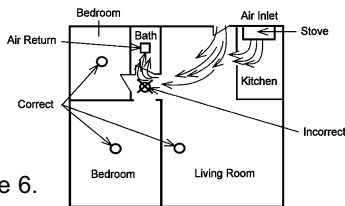

Figure 6.
- **In air streams passing by kitchens.** Figure 6 shows how a smoke alarm can be exposed to combustion particles in normal air movement paths, and how to correct this situation.